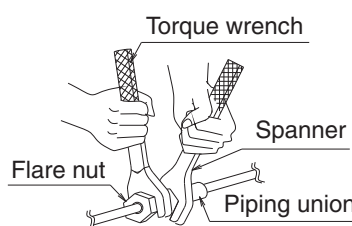

Fig. 11
- Be sure to use both a spanner and torque wrench together, as shown in the figure, when connecting or disconnecting pipes to/from the half-union joint (accessory). (Refer to Fig. 11 on "7 REFRIGERANT PIPING WORK")
- Be sure to use both a spanner and torque wrench together, as shown in the drawing, when connecting or disconnecting pipes to the unit. (Refer to Fig. 11)